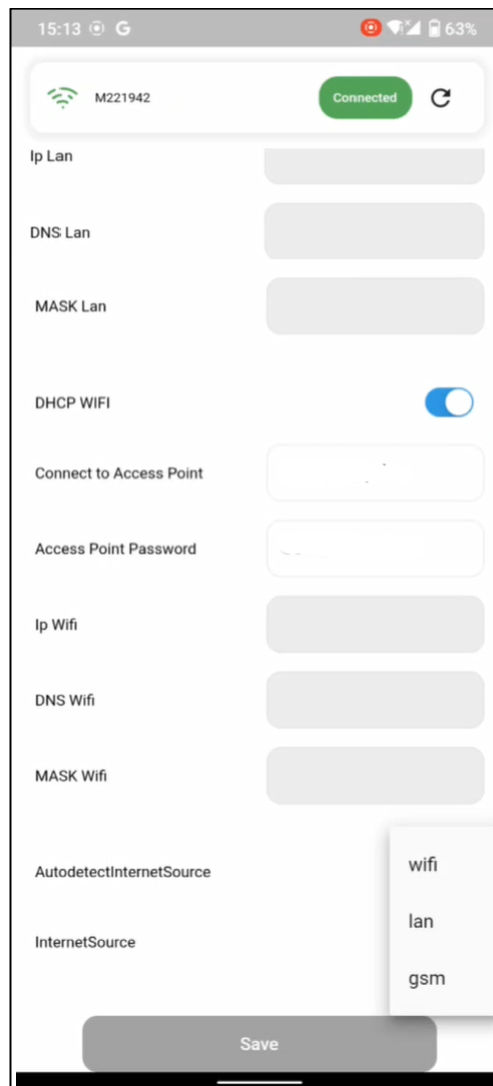

Figure 5.23. The window for selecting and setting the connection type for connecting to the Internet
5. Return to the application and in the "InternetSource" section (Figure 5.23) select the type of network that the station will use (wifi/lan/gsm).